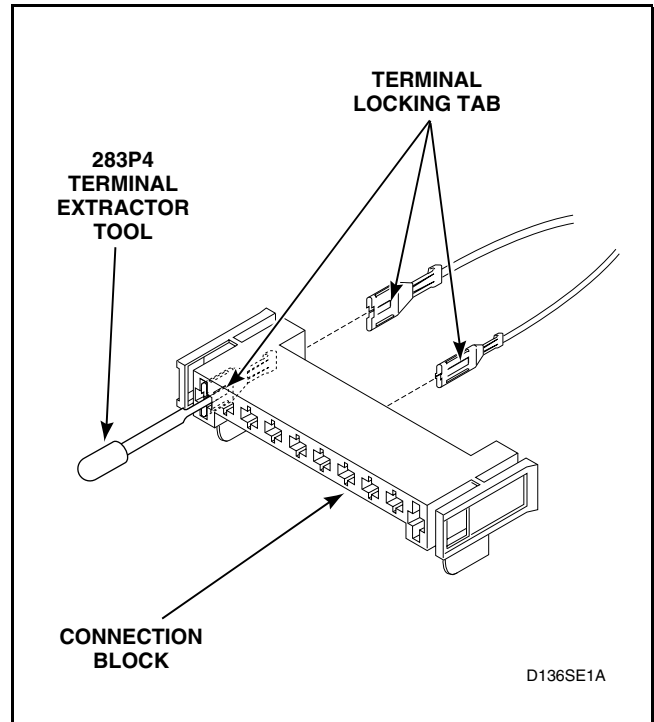

Figure 43
- (1) Insert the tool into the block on the back of the terminal being removed. Refer to *Figure 43*.
- (2) Apply tool pressure to compress the terminal locking tab on terminal and force the terminal and wire out back side of connection block. Refer to *Figure 43*.